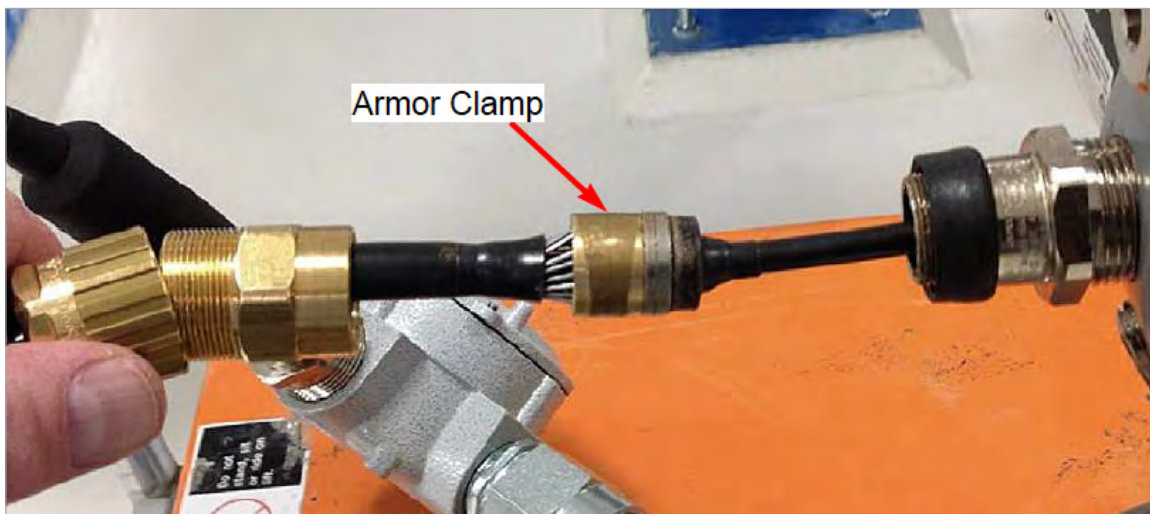

Figure 5: Disassembling the cable gland
2. Disassemble the *Cable Gland* (see *Figure 5* below). However, DO NOT try to separate the pieces of the Armor Clamp that secures the cable armor, as these pieces are permanently assembled.